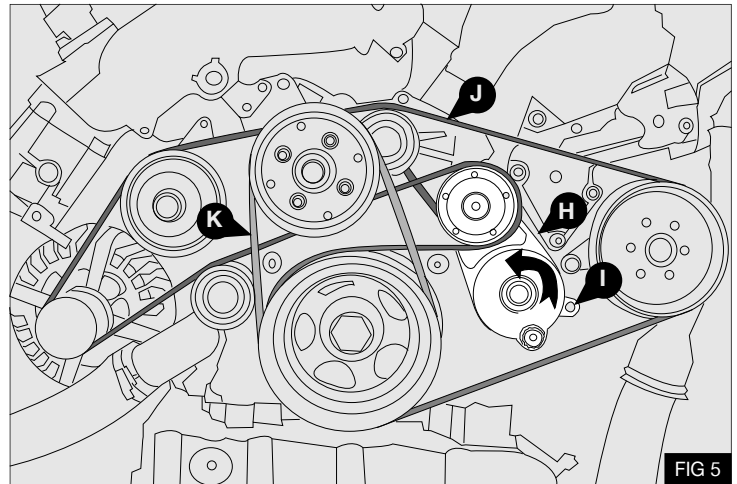

FIG 5
8. Using a 17mm double hex socket rotate the automatic belt tensioner pulley (H) anti-clockwise and insert a suitable 6mm pin at point (I) - Fig.5
9. Remove and discard the original manufacturers poly groove drive belt (J) - Fig.5
**NB:** It is NOT necessary to remove the original stretch belt (H) from the fan assembly - Fig 5
2. Remove the previously installed 6mm pin from the automatic tensioner to tension the belt - Fig 5